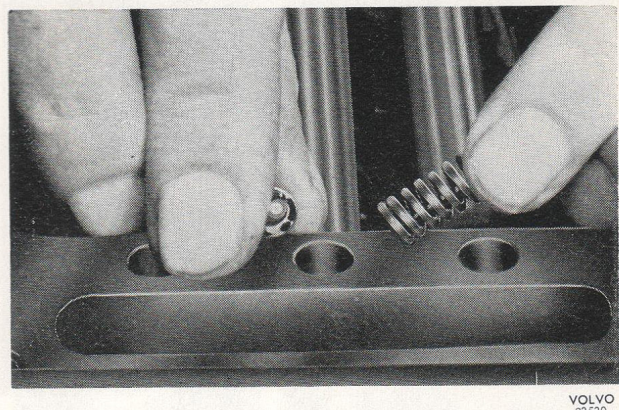

Fig. 39. Fitting interlock balls and springs
9. Place the interlock balls and springs in position, see Fig. 39. Fit on the gearbox cover. Check that all the gears engage and disengage freely.